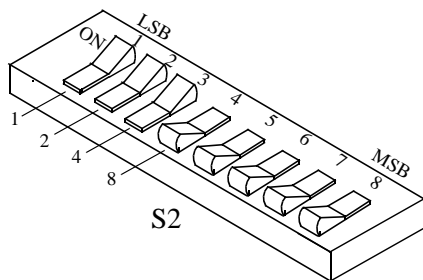

Figure 1-18 MLM S2 MODEM/FSK GATES
1. **In the MLM** drawers set S2 switch as shown in Figure 1-18 and reset the MLM. This enables MODEM U9 and the FSK gate.